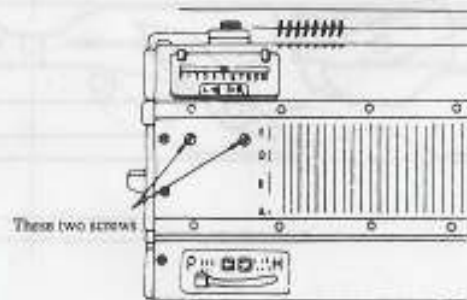

Fig. 22-1
1.1 Meeting of needles on both beds. (See Fig. 22-1)